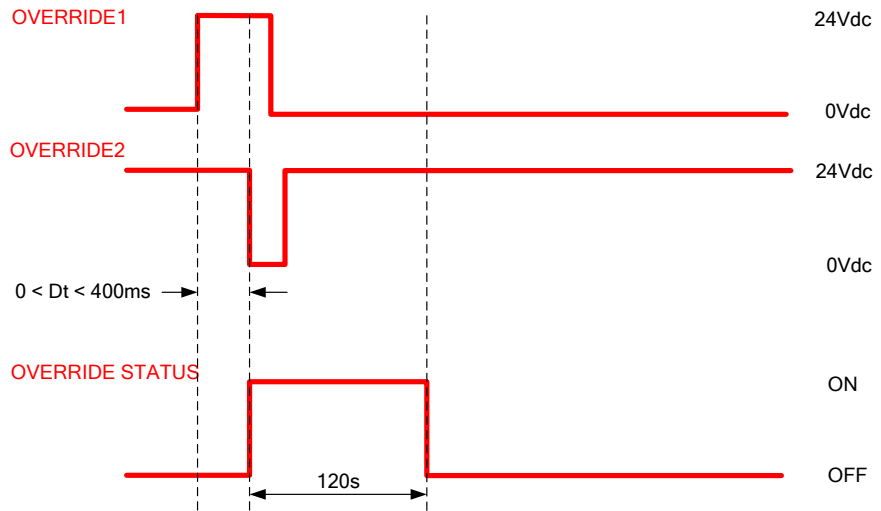

Figure 46
- The time-out expires (Figure 46).